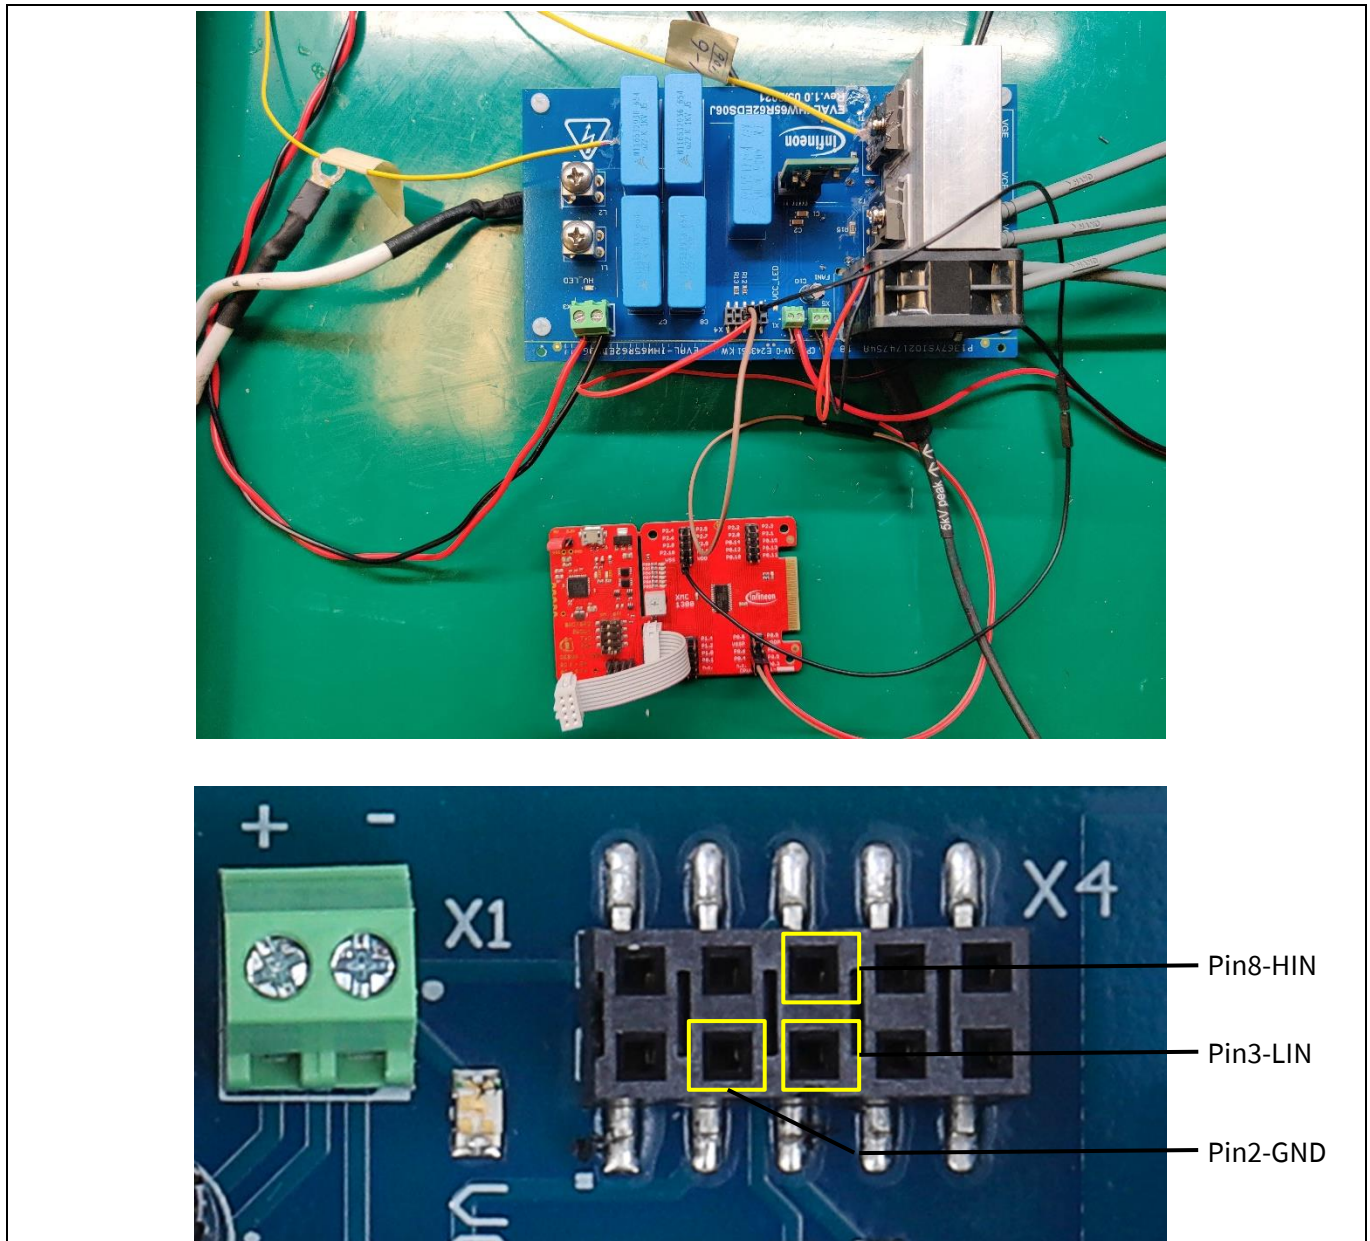

Figure 3 Connection of digital interface X4 to the Boot Kit XMC1300
3. Connect the JP104 of the Boot Kit XMC1300 to the connector X4 of the evaluation board, as indicated in Figure 3¹.